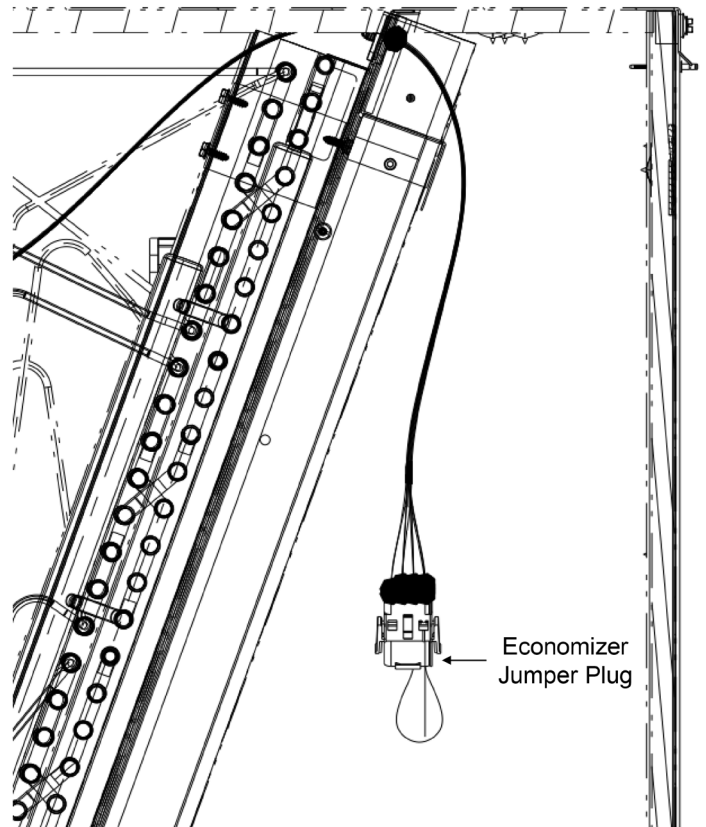

FIGURE 16
**NOTE: FOR 7.5 TO 12.5 TON UNITS, THE FACTORY INSTALLED ECONOMIZER WIRE HARNESS AND JUMPER PLUG WILL BE HANGING FROM THE EVAPORATOR COIL BLOCKOFF (SEE FIGURE 16.)**